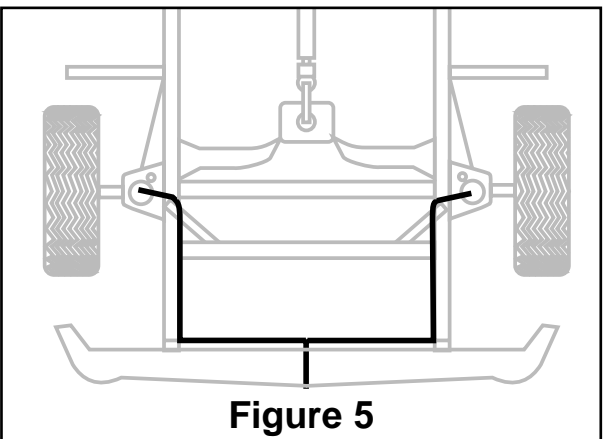

Figure 5
- H. Push the remaining air line over the last fitting on tee and route along frame to desired inflation valve location (Figure 5). Attach with plastic straps or wire.
- I. Select a location for inflation valve in the gas cap well, the trunk, rear bumper, fender flange or behind the license plate, assuring that the valve will be protected and accessible with an air hose (Figure 5).